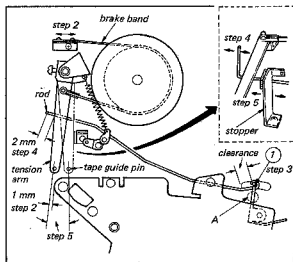

Fig. 4-7. Tension arm adjustment
2. Set the Function Lever to the FORWARD position. Check the distance between the Tape Guide Pin on the Tension Arm and the extreme left edge of the drum deck as shown in Fig. 4-7. It should be about 1 mm. Swing the Brake Band as needed to obtain the correct spacing.
3. Check for clearance between the hole in the chassis and Item 1 shown in Fig. 4-7. If the correct clearance cannot be obtained, bend Part A with a pair of pliers to obtain the gap. (Don't bend it too much).
4. Check the distance between the rod and the Tension Arm as shown in Fig. 4-7. It should be 2 mm. Bend the end of rod as needed to obtain the correct spacing.
5. Set the Function Lever to the STOP position. Check the position of the Tape Guide Pin shown in Fig. 4-7. Reposition the Tension Arm Spring Bracket to obtain the correct position.